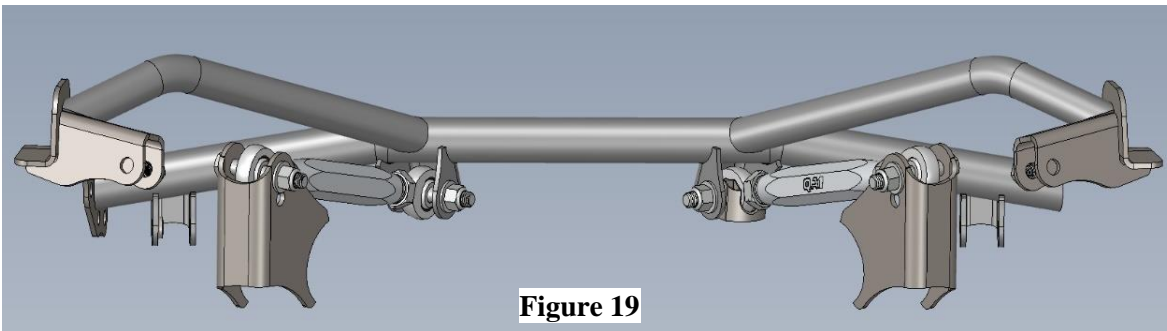

Figure 19
- Identify the left/right weld-in mounts for the upper trailing arm to axle connection and install the red anodized upper trailing arms into the top hole with one SG12-88 spacer on each side of the rod end. Secure using 1/2"x 3.25" hardware with two washers and one nyloc nut per connection. The upper trailing arms should now be hanging from the crossmember with weld-in brackets in preparation for the axle mock-up. (**Figure 19**)